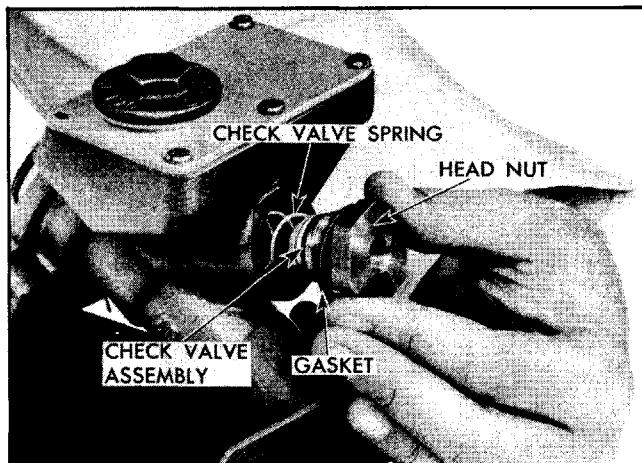

Fig. 5-50 Removing or Replacing Head Nut Assembly
5. Reset in vise or tool J-5433 and remove head nut assembly and copper gasket (Fig. 5-50). (Guard against check valve and check valve spring falling from hole as head nut assembly is loosened.) Remove rubber check valve seat washer which fits over the button on the head nut.